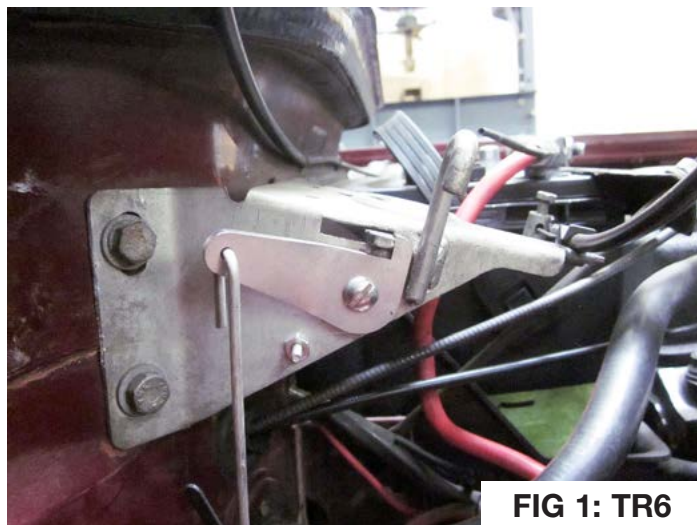

FIG 1: TR6
- 1) Begin by clamping the new release lever to the bonnet latch bracket with a "C" clamp or Vise-Grips. Position the new release lever so that it rests against the bottom and front edges of the bonnet latch lever, and the large radius on the new release lever does not extend below the lower edge of the bonnet latch bracket as shown in the FIG. 1. For TR6 applications, the new release lever will fit between the main latch and the safety catch loop. **CAUTION:** Allowing the edge of the large radius to extend below the edge of the bonnet latch bracket, or failure to position the lever snugly against the bottom and front edges of the bonnet latch lever can allow the lever to move "over center", and you will need to add a "stop bolt" for the new release lever to prevent this.